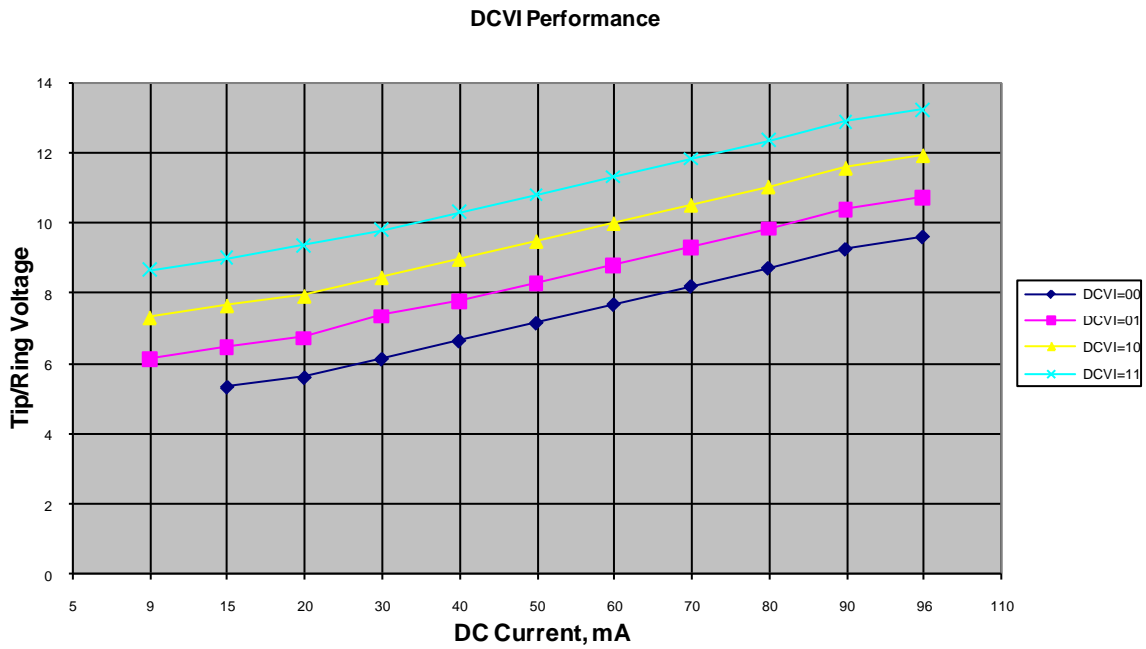
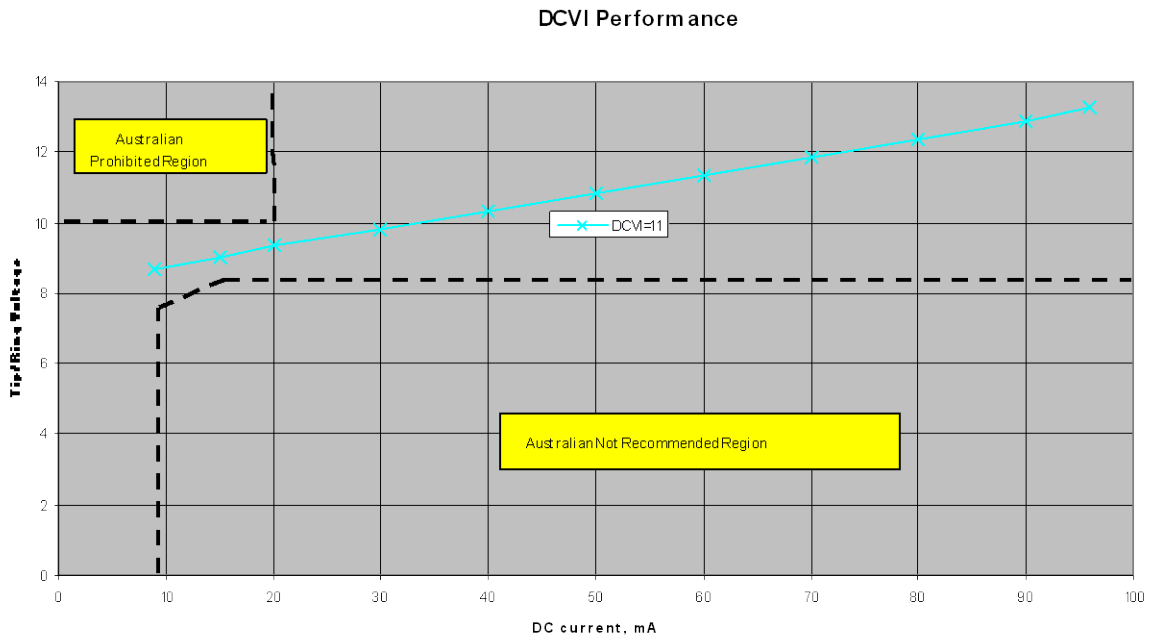
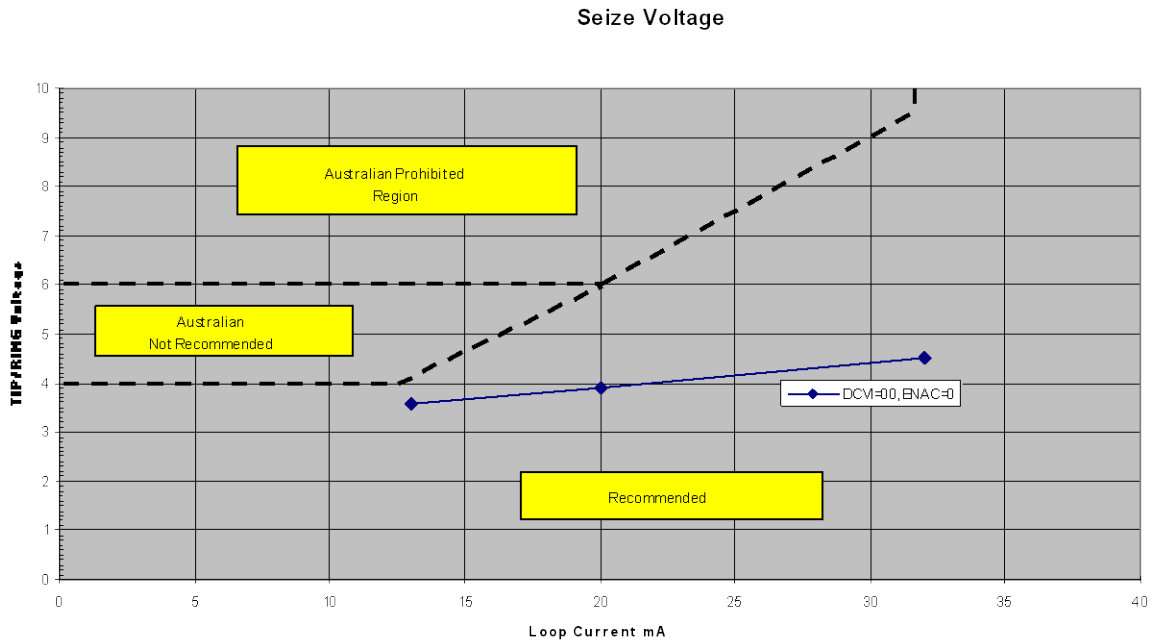

Figure 1: DC Line Characteristics with the 73M1966B DCVI[1:0] Settings
Figure 2: DCVI[1:0]=11 Setting with the Australian Hold State Template
Figure 3: Seize Mode DCVI Characteristics with the Australian Seize Template
The DC termination requirements can be measured by checking the DC mask compliances. See Figure 1 through Figure 3 for measured results.
Figure 1 shows the DC line characteristics for the four DCVI1/DCVI0 settings.
Figure 3 shows the Seize Mode DCVI characteristics with the Australian Seize Template. The DCVI setting does not affect the DCVI characteristics in the Seize Mode.
5. To go off hook, set bits OFH and ENDC in Register 0x12[7:6]. Optionally the ENAC bit (Register 0x12[5]) can be set at the same time, or it can be set separately to use the “seize” mode as required for Australia (Figure 3). This puts the network connection into a mode where the DC voltage is lower than what is set by the DCVI bits and is used for the first ~300 ms before the ENAC bit is set. After the ENAC bit is set, the line goes to the “hold” state and reverts to the normal DCVI mode selected by the DCVI bits (Figure 1 and Figure 2). After entering the hold state, the ENNOM bit (Register 0x12[0]) should be set to allow the operation of the line detectors (UVDT, OVDT, and OIDT) and shift the DC circuit to the low bandwidth state. At this point, the line voltage and current detectors can be enabled by setting the ENDT bit (Register 0x12[1]).